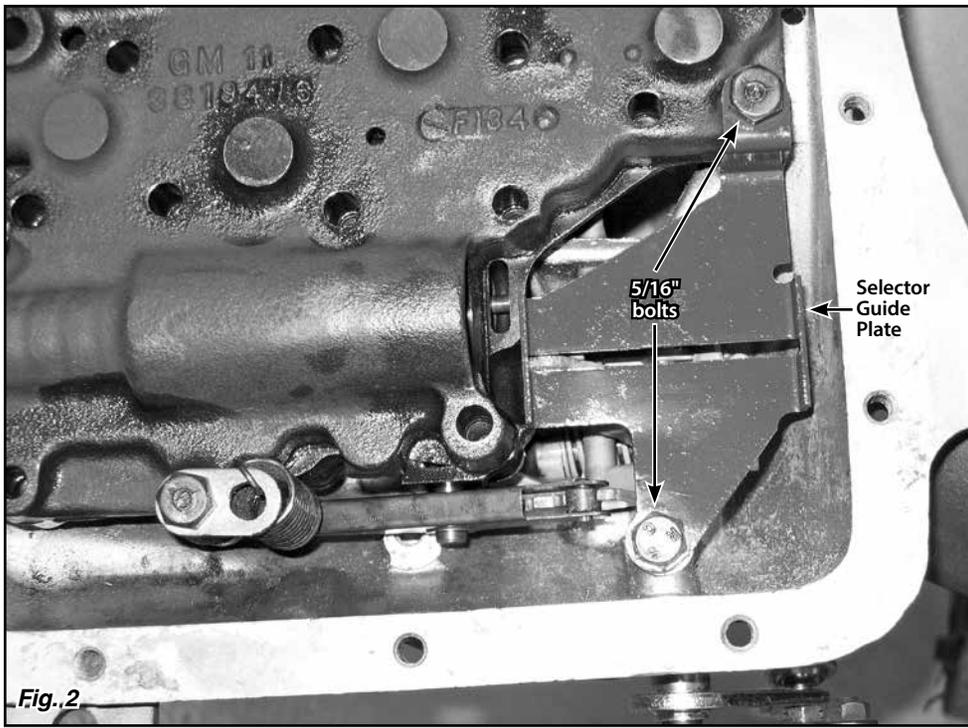

Fig. 2
**Step 3:** Remove the two 5/16" bolts from the selector guide plate, and remove the selector guide plate. Fig. 2